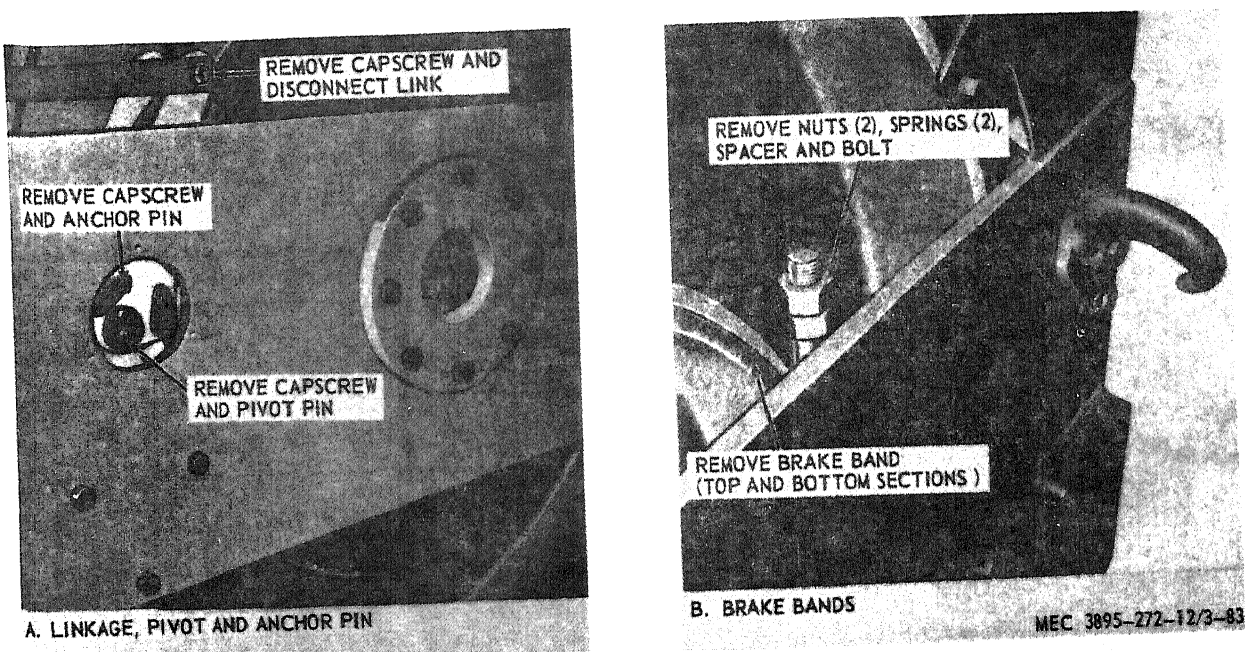

Figure 3-83. Parking brake, removal and installation.
a. Removal. Remove the parking brake from the drive roll as instructed on figure 3-83.
- (1) Clean all parts with an approved cleaning solvent.
- (2) Inspect the lining for wear and damage. Replace worn or damaged lining.
- (1) Install the parking brake in reverse of the instructions on figure 3-83.
- (2) Adjust parking brake (para 3-16).